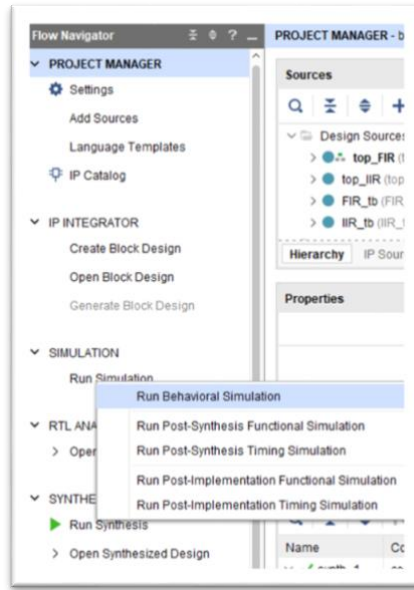

Figure 19 Running behavioral simulation
g) In the Flow Navigator Panel, click on “**Run Simulation->Run Behavioral simulation**” as shown in Figure 19.